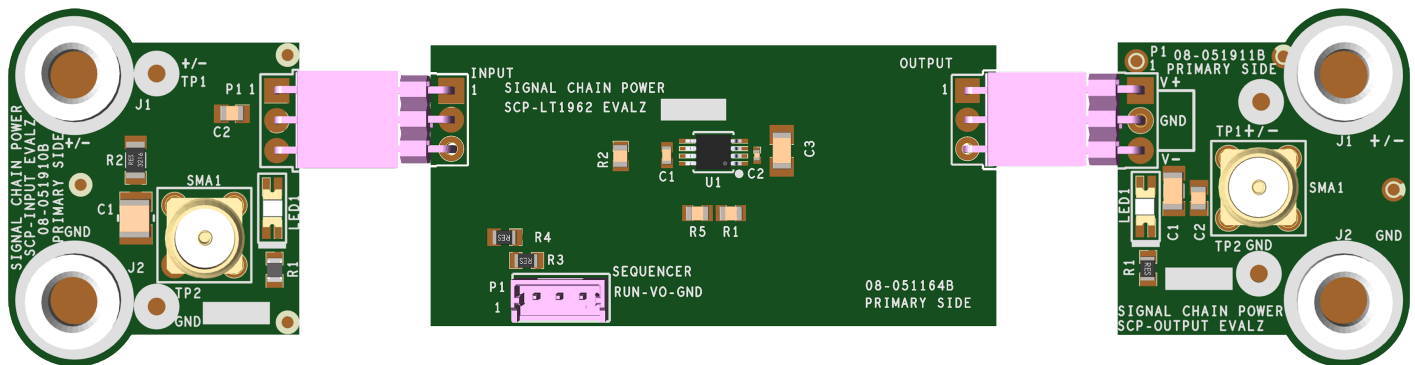

Figure 2. Proper Measurement Equipment Setup (Use SMA connectors for Measuring Input or Output Ripple)
2. Connect the SCP-INPUT-EVALZ and SCP-OUTPUT-EVALZ boards to the SCP-LT1962-EVALZ (refer to Figure 2) and connect the input board to a voltage source, V_{SOURCE} . Connect the output board to a voltmeter or dynamic load. Slowly raise the input voltage until the SCP-LT1962-EVALZ powers up into regulation and sweep V_{SOURCE} through the desired range of operation.